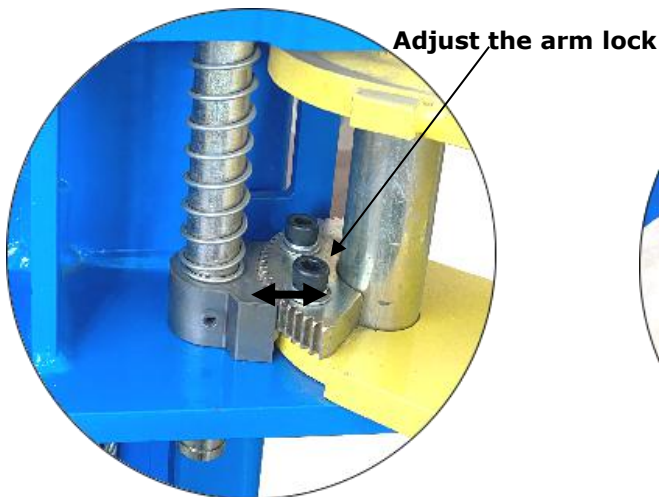

Fig. 37
3. Adjust the arm lock as direction of arrow (See Fig. 37)